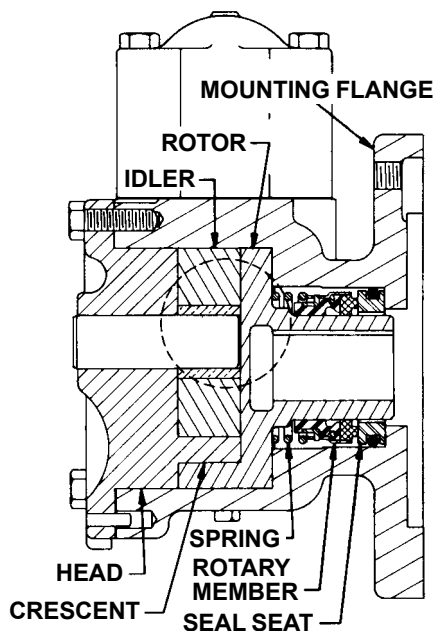

FIGURE 10
To Reassemble Model H475, HJ475, or HL475 Mechanical Seal Pumps: see Figure 10)
6. **THE HEAD CAN NOW BE ASSEMBLED ON THE PUMP.** Tilt the head away from the pump slightly until the crescent enters the inside diameter of the rotor and rotate the idler until its teeth mesh with the rotor teeth. Do not damage the head gaskets. Note the correct position of the idler and crescent. **Refer to Figure 10 and Disassembly step 2.**